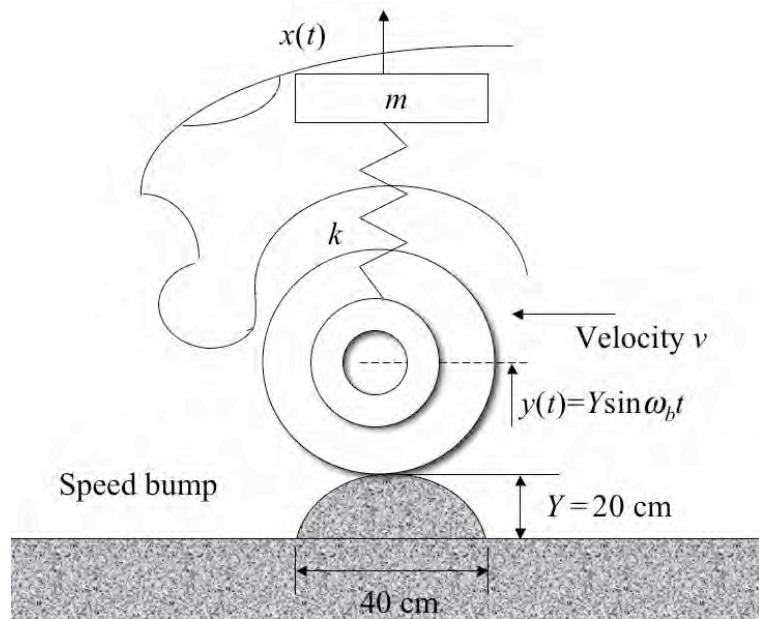

Figure P3.17 Model of a car driving over a speed bump.
- 3.17** Speed bumps are used to force drivers to slow down. Figure P3.17 is a model of a car going over a speed bump. Using the data from Example 2.4.1 and an undamped model of the suspension system ($k = 4 \times 10^5 \text{ N/m}$, $m = 1007 \text{ kg}$), find an expression for the maximum relative deflection of the car's mass versus the velocity of the car. Model the bump as a half sine of length 40 cm and height 20 cm. Note that this is a moving base problem.